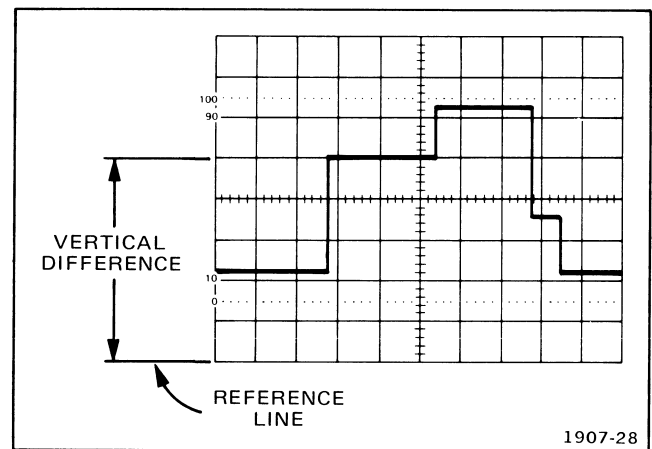

Fig. 2-10. Instantaneous voltage measurement.
4. Set the AC-GND-DC switch to GND. Adjust the trace to some reference line (see Fig. 2-10).
The vertical difference is five divisions (see Fig. 2-10). The VOLTS/DIV switch is set to 10 mV. The waveform appears above the reference line.